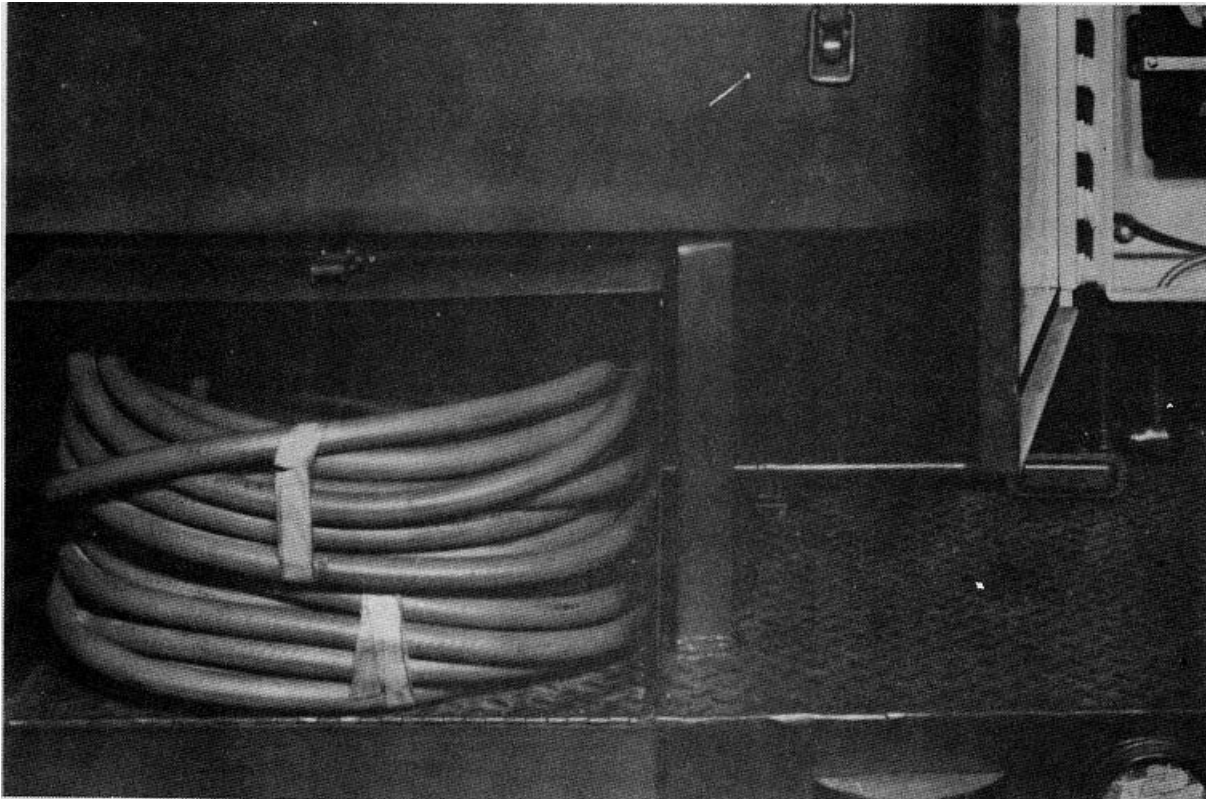

Figure 61. HOSE CARRIER
73. Hose Carrier(Beneath Tool Box) See Fig 61